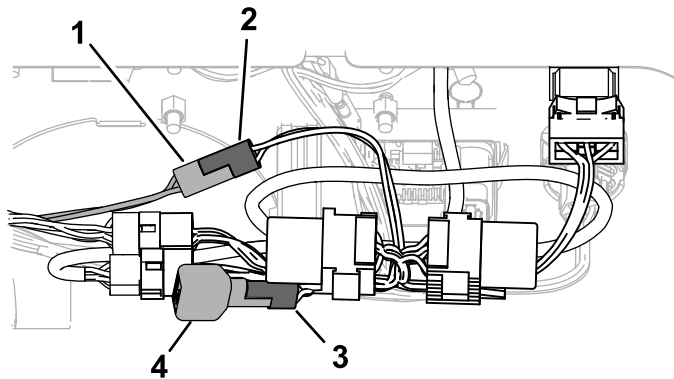

Figure 6
- Remove the diode from the Low Flow Kit wire harness, plug the controller harness connector (P03) into that connector, and plug the diode into the diode socket (P07) as shown in Figure 6.